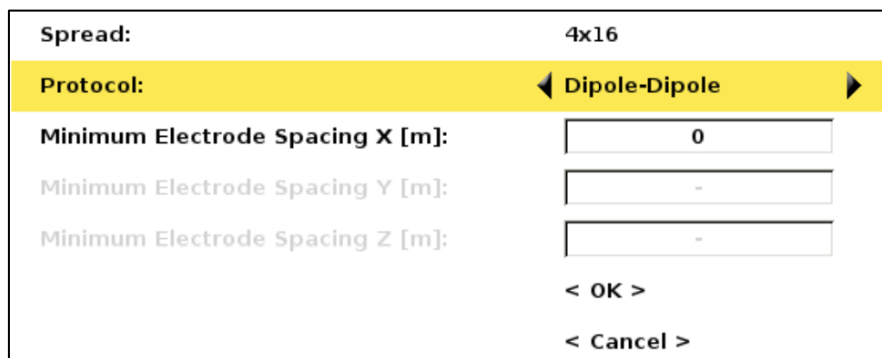

Figure 21 Create new task dialog
- Press <OK> and the Create New *Task* dialog will be shown (Figure 21)